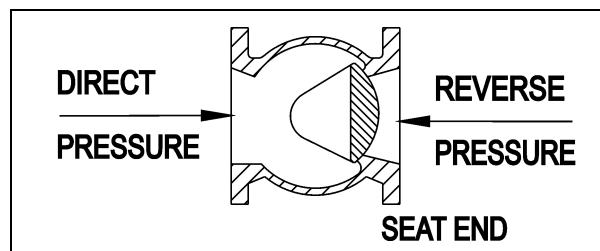

Figure 7 – Pressure Direction
Valves can be mounted with Direct or Reverse pressure. See Figure 7.
4. Close the valve with the pressure specified in Table B for the appropriate size and pressure direction—See Figure 7.